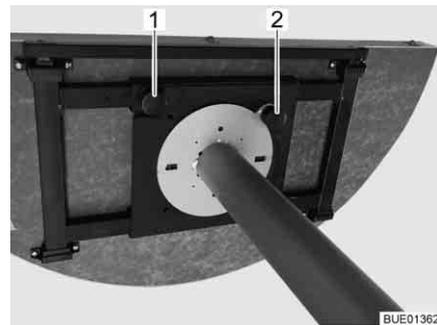

Fig. 97 Adjusting mechanism
- Loosen knurled screw (Fig. 97,1).
- Raise the adjustment knob (Fig. 97,2).